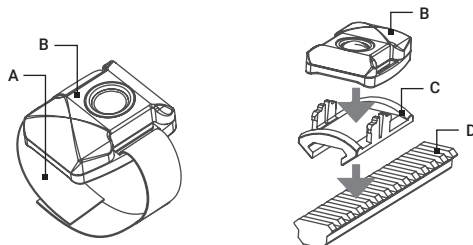

FIGURE 2-2. WIRELESS REMOTE CONTROL
Using the supplied Velcro® tape (A, Figure 2-2), fasten the remote control (B) to an easily accessible place.